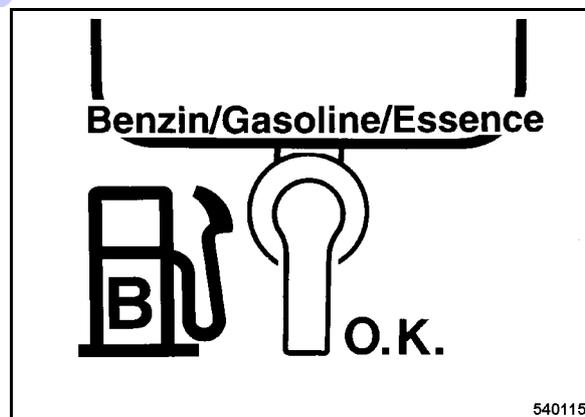

Fig. 12
- Open the fuel cock(Fig. 12).